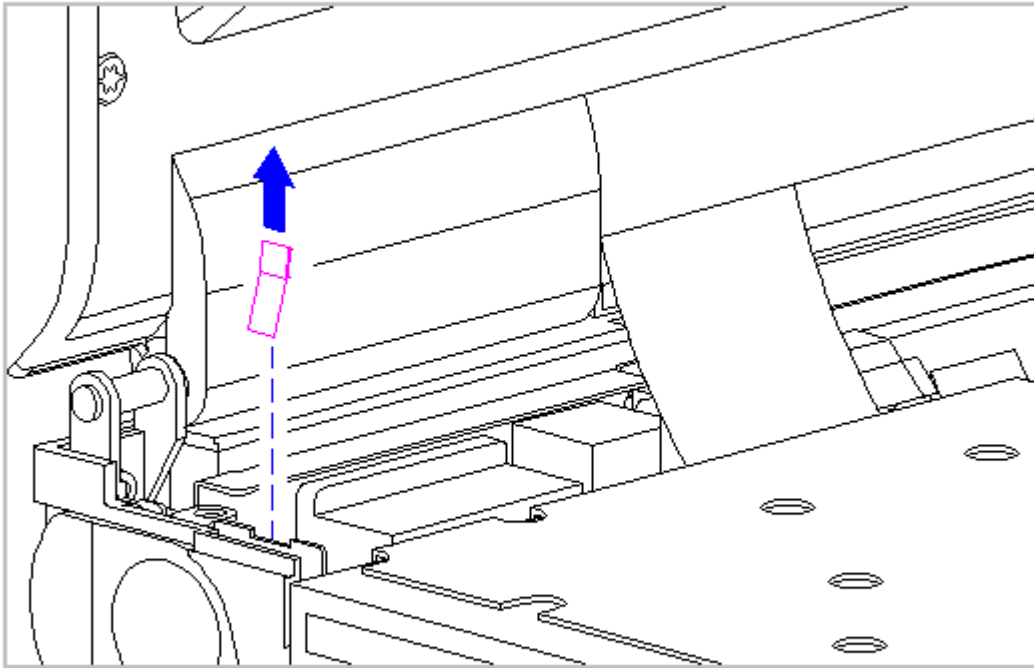

Figure 3-184. Removing the Left Clutch Ground Clip (All Models)
3. Remove the left clutch ground clip from the system chassis (Figure 3-184).